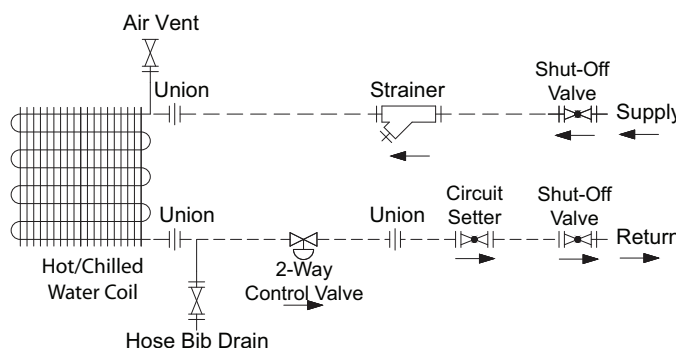

Fig. 52 — Installing Piping
2. Install pipe unions and shutoff valves in lines to and from each coil to allow maintenance or replacement of unit without shutting down and draining entire system. See Fig. 52.